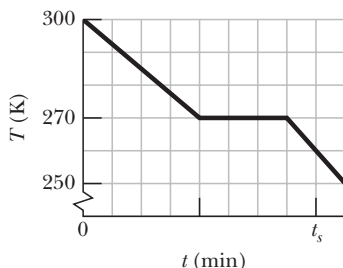

Figure 18-33 Problem 30.
•30 A 0.400 kg sample is placed in a cooling apparatus that removes energy as heat at a constant rate. Figure 18-33 gives the temperature  $T$  of the sample versus time  $t$ ; the horizontal scale is set by  $t_s = 80.0 \text{ min}$ . The sample freezes during the energy removal. The specific heat of the sample in its initial liquid phase is  $3000 \text{ J/kg}\cdot\text{K}$ . What are (a) the sample’s heat of fusion and (b) its specific heat in the frozen phase?